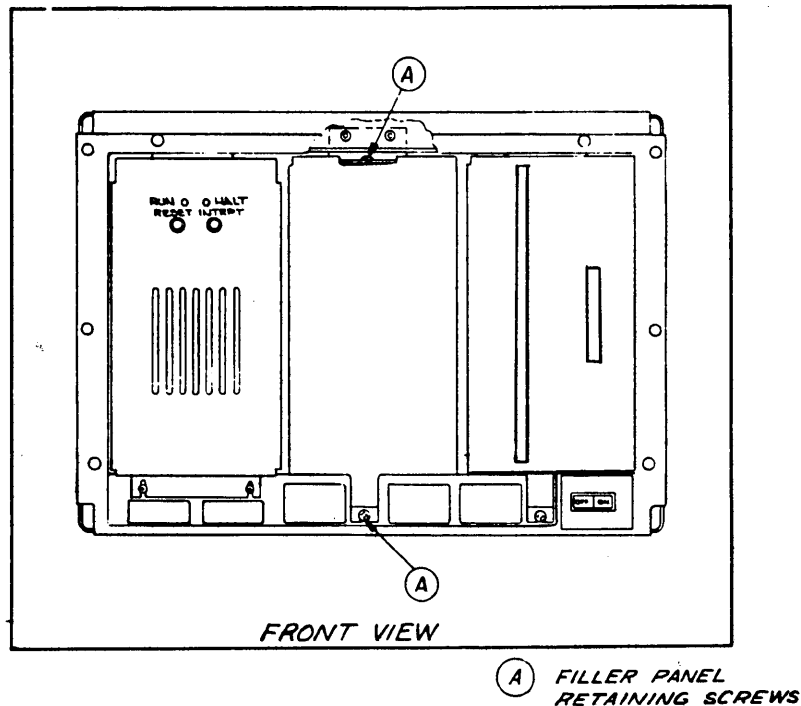

Figure 4-4. Filler Panel Retaining Screw Locations
5. Remove two screws securing the filler panel to the chassis and remove the filler panel. (Refer to Figure 4-4.)